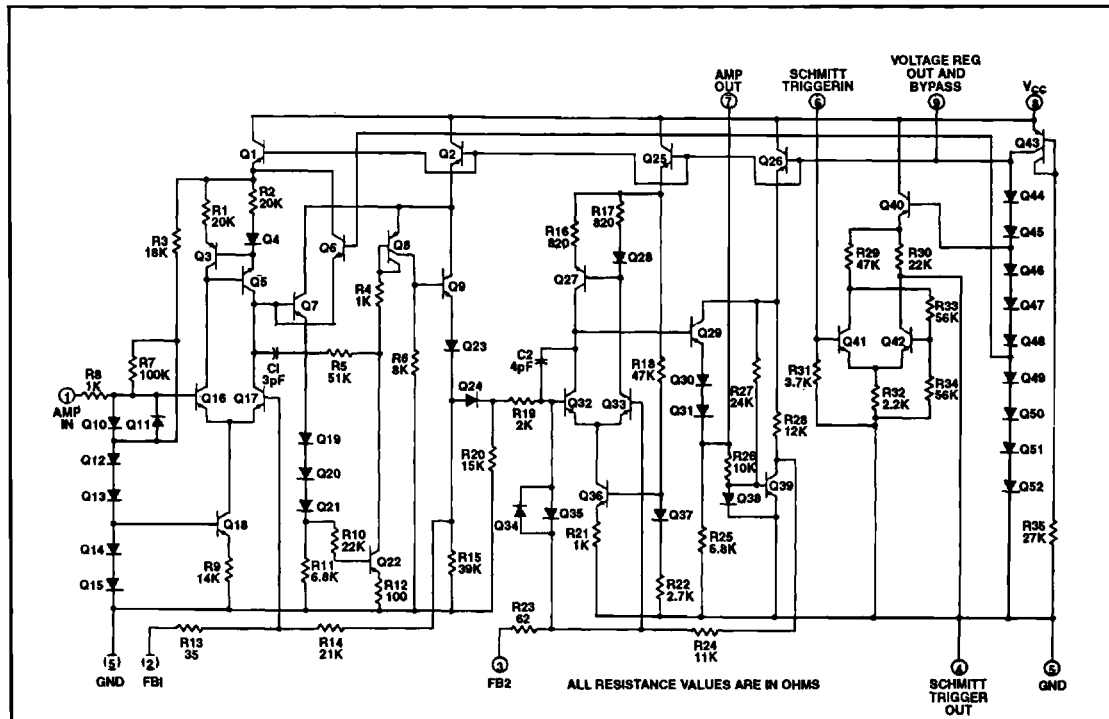
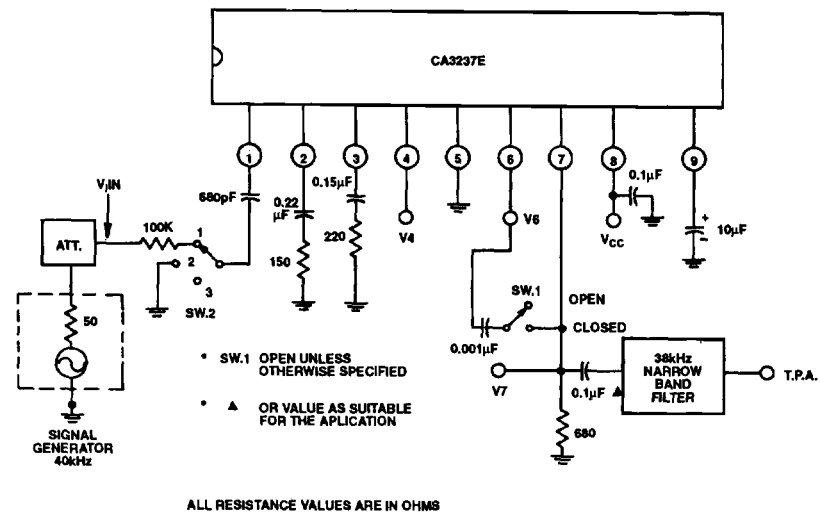

FIGURE 1. SCHEMATIC DIAGRAM FOR CA3237
FIGURE 2. TEST CIRCUIT FOR CA3237
**Electrical Specifications**  $T_A = +25^\circ\text{C}$ ,  $V_{CC} = 12\text{V}$ , Unless Otherwise Specified. See Figure 2 for Test Circuit
The CA3237 is intended for use in an infrared (IR) remote-control receiver or other comparable application. As shown in Figure 1, this IC consists of two cascaded amplifiers, a Schmitt-trigger circuit, and an internal 6.3-volt regulator. The VCC power-supply input may range from 8 to 14 volts.
For the feedback circuit values in the test circuit of Figure 2, the simplified gain equation may be used to calculate the first stage gain as follows:
The worst-case conditions allow for  $Z_{in}$  and  $A_{OL}$  variations. The gain specification from the Electrical Characteristic table is 0.8V for 500 $\mu$ V input. This specification dictates a minimum gain of 1600 (or 64dB) minimum, including input attenuation losses due to the 100-kilohm source resistor. The Figure 2 circuit is specified as a test condition, but is not a limited use of the CA3237. Using circuit layout care and some shielding, it is possible to achieve over 90dB of stable gain.
If the source impedance of the signal source is high compared to the input impedance of the amplifier, there will be a proportional attenuation at the input signal. For the Figure 2 test circuit, the source impedance is 100 kilohm and the input loss is typically 9dB.
The output drive signal from the second amplifier (at pin 7) is from the emitter follower Q29 and series Q30 and Q31, shown in Figure 1. As shown in the test circuit of Figure 2, it is possible to stiffen the source impedance by additional dc loading at pin 7. It is recommended that the output load be greater than 500 $\Omega$ .
The amplifiers are designed to provide signal limiting over a wide dynamic range with little effect on the duty cycle. In the IC circuit diagram of Figure 1, the Q10 and Q11 back-to-back diodes limit the peak-to-peak drive; additional control is provided by the Q6 emitter at the output of the first differential stage. Limiting starts as low as 50 $\mu$ V. The limiting range continues to a level greater than 1 volt of signal-input capability with typically less than 10% change in duty cycle.
It is important to note that the Schmitt trigger input has 3.7 kilohm input impedance but drops to a much lower value when the input transistor switches to saturation. The low impedance provides noise immunity during the low (OFF) state. In Figure 1, transistor Q41 and Q42 form the differential switching circuit. The threshold for switching at pin 6 is approximately 1 volt (ON) and 0.8 volt (OFF). The bias supply for the switching differential is determined by the internally regulated supply, which is tapped at 4.2 volts on the stack of reference diodes.